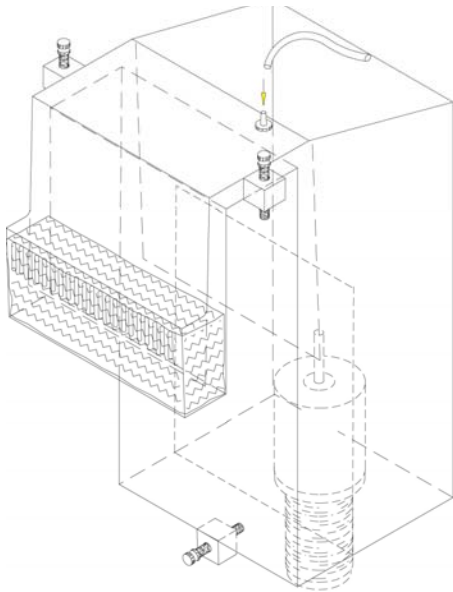

Fig. 1
6. Adjust the height of the unit with the two top adjustment screws so the water level is about ¼” above the edge of the front chamber.(FIG 1) Make sure that the overflow is level with the water surface, not necessarily the tank, as some tanks may not be perfectly level. .